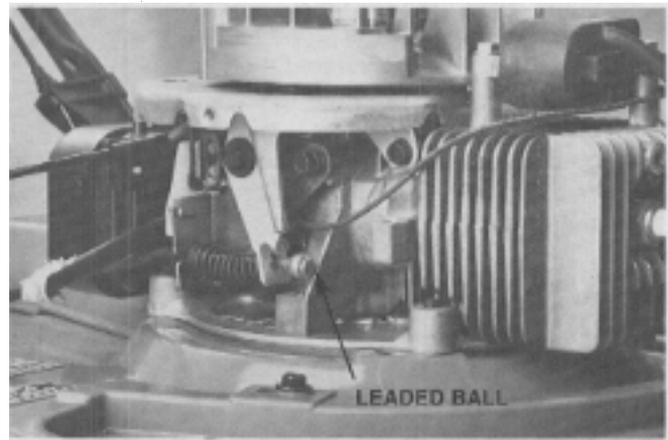

Figure 83
2. Secure the replacement brake plate to the engine with shoulder screw (7). Tighten it to 90 in lbs (9.2 N•m). Ensure that the brake plate pivots freely.
5. Insert the leaded ball end of the cable into the vertical slot of the brake plate (**Figure 83**).